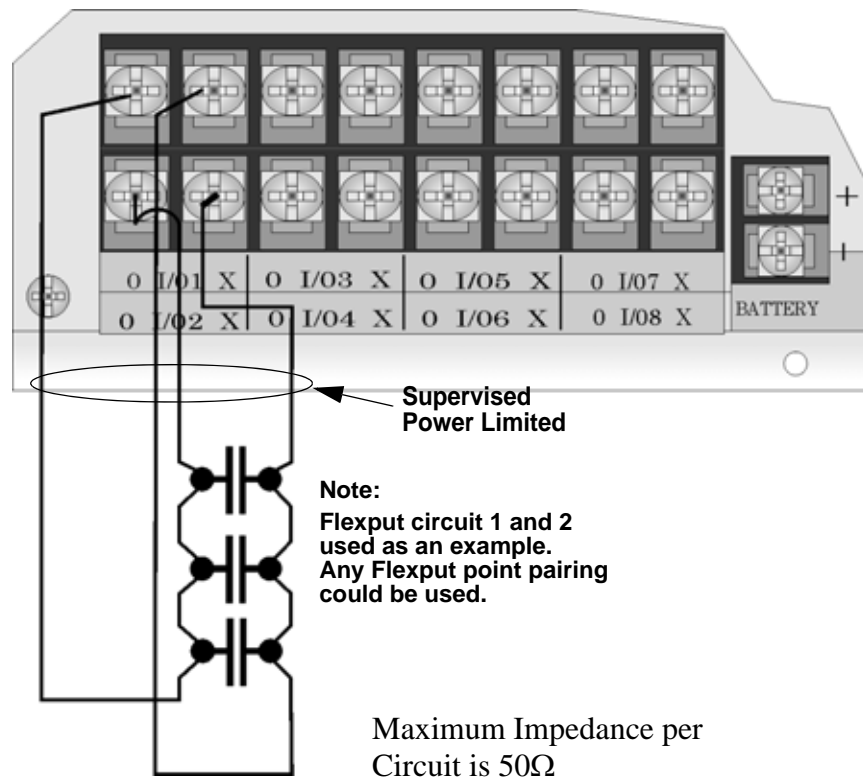

Figure 4-34 Class A initiating Switches
1. Wire the Class A switch as shown in Figure 4-34.
Note: In programming any point that uses multiple Flexput circuits, the lowest Flexput circuit number is used to refer to the circuit pair. For example, Figure 4-34 uses both Flexput circuit 1 and 2, so in programming it would be referred to as point 1.